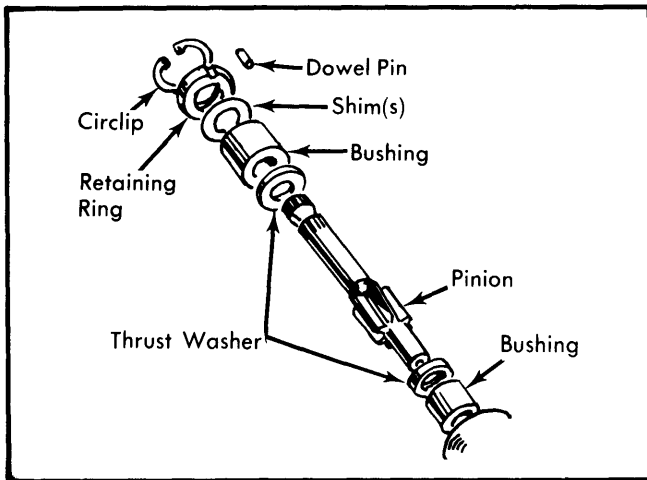

Fig. 3 Detailed View of Spitfire Pinion
5) Insert new "O" ring in retaining ring, then install retaining ring and dowel pin in housing. Install circlip and check that pinion end play does not exceed .010" (.254 mm). Adjust shim pack as necessary to meet this specification (See Fig. 3).